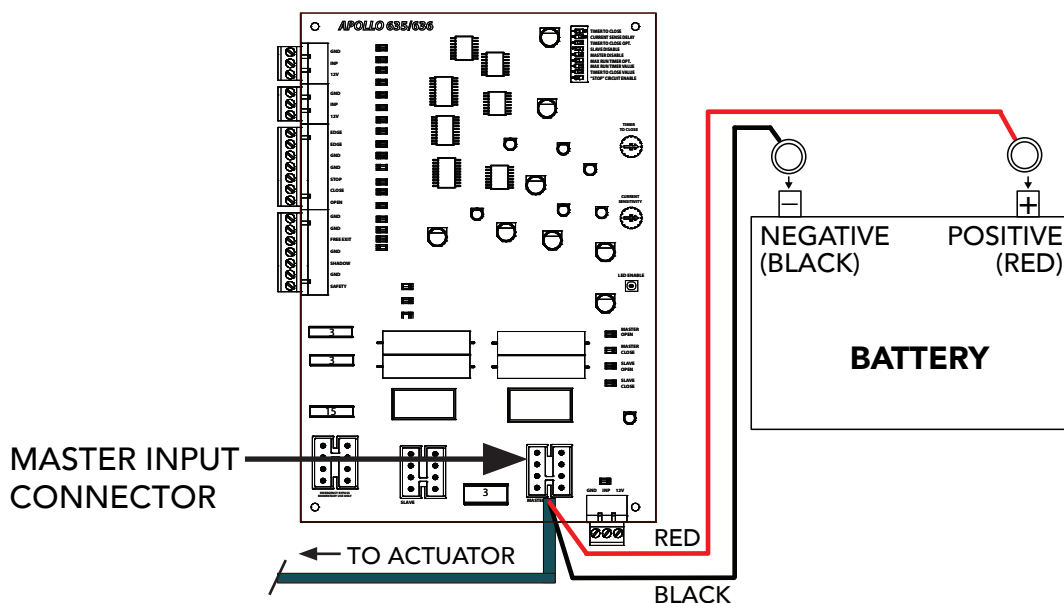

FIGURE 8-3: BATTERY CONNECTION FROM ACTUATOR HARNESS (SINGLE GATE SHOWN)
6. Connect the two battery lugs from the MASTER actuator harness to the battery; red to positive (+) and black to negative (-). See FIGURE 8-3.